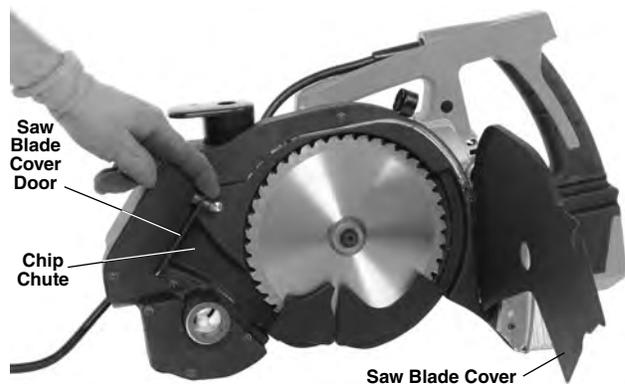

Figure 18 – Saw Chip Chute and Cavity
3. Swing open the saw blade cover. See Figure 18.
4. Clean the chips from the blade and inspect blade. Make sure the chip chute and surrounding cavity is clear. See Figure 18. Be aware that chips can be hot. To reduce risk of fire, do not allow hot chips to contact combustible material.